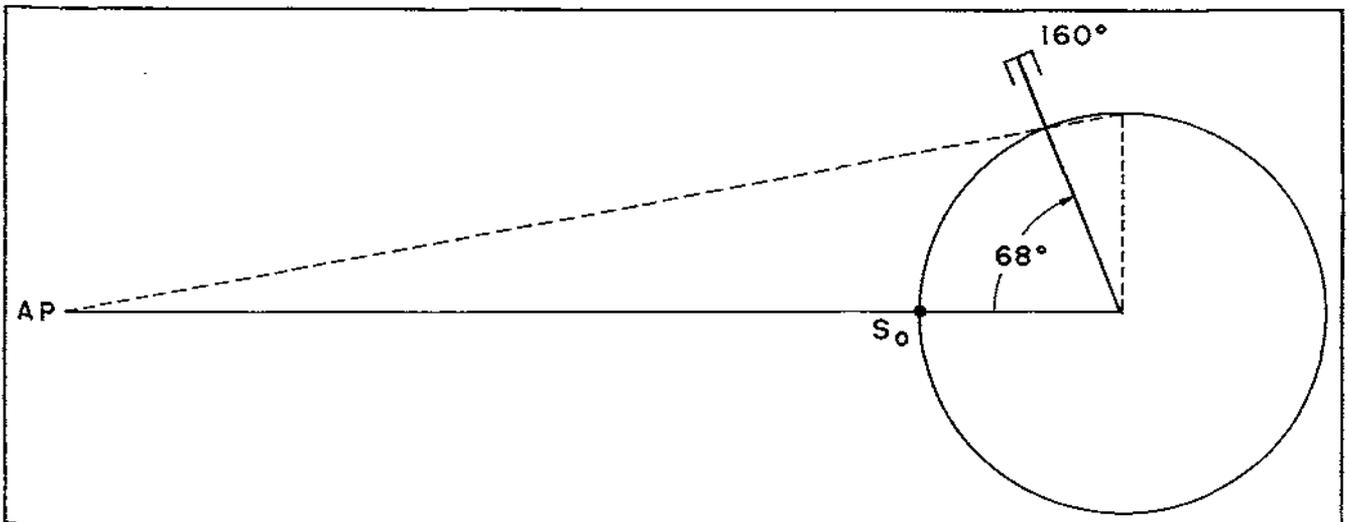

Figure 9.—
A. Assume the aiming point is in prolongation of the line PC-S0. Therefore, extend PC-S0 on the sketch as in figure 9. Locate AP. To find the distance to the aiming point, find the maximum effective sight displacement and substitute in the formula: